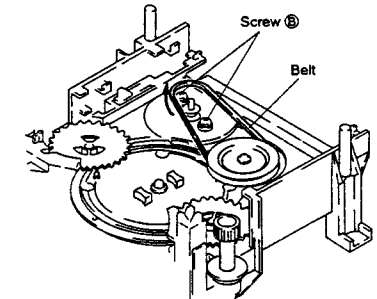

Fig. 2-11
- (4) Turn over the loading base once again, and tighten the loading motor with two screws ⑥ and set the belt as shown in Fig. 2-11.